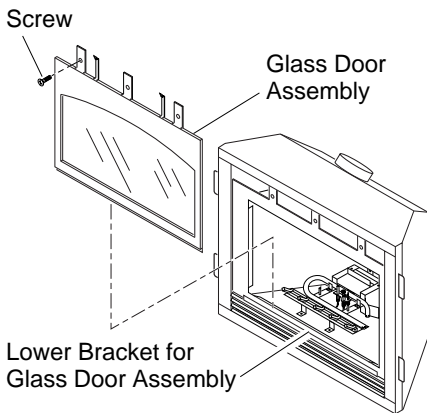

Figure 2 - Removing/Replacing Glass Door
2. Using a 3/8" socket or slotted screwdriver remove the screws from the three tabs at the top of the glass door (see Figure 2, page 2). Hold glass door securely to keep it from falling forward.
3. Grasp door by both sides and ease it upward off the lower bracket (see Figure 2, page 2).